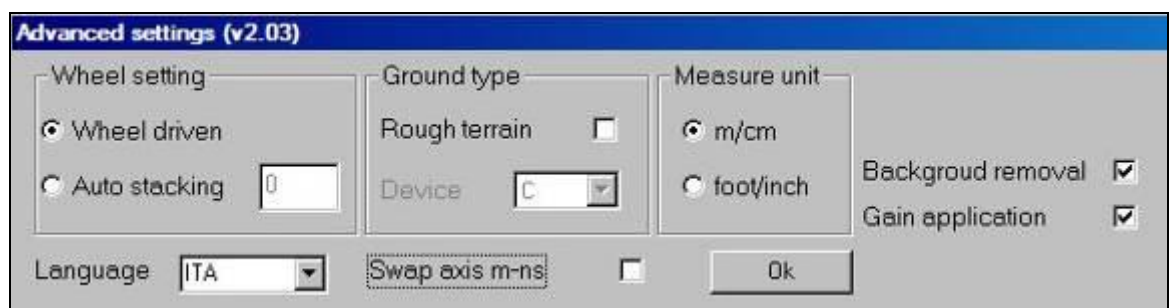

Fig. 5.11 –Advanced settings window
- Clicking twice on the upper grey bar of the first window (Fig. 5.10), opens the **Advanced settings** window (Fig. 5.11), where the following parameters can be set: